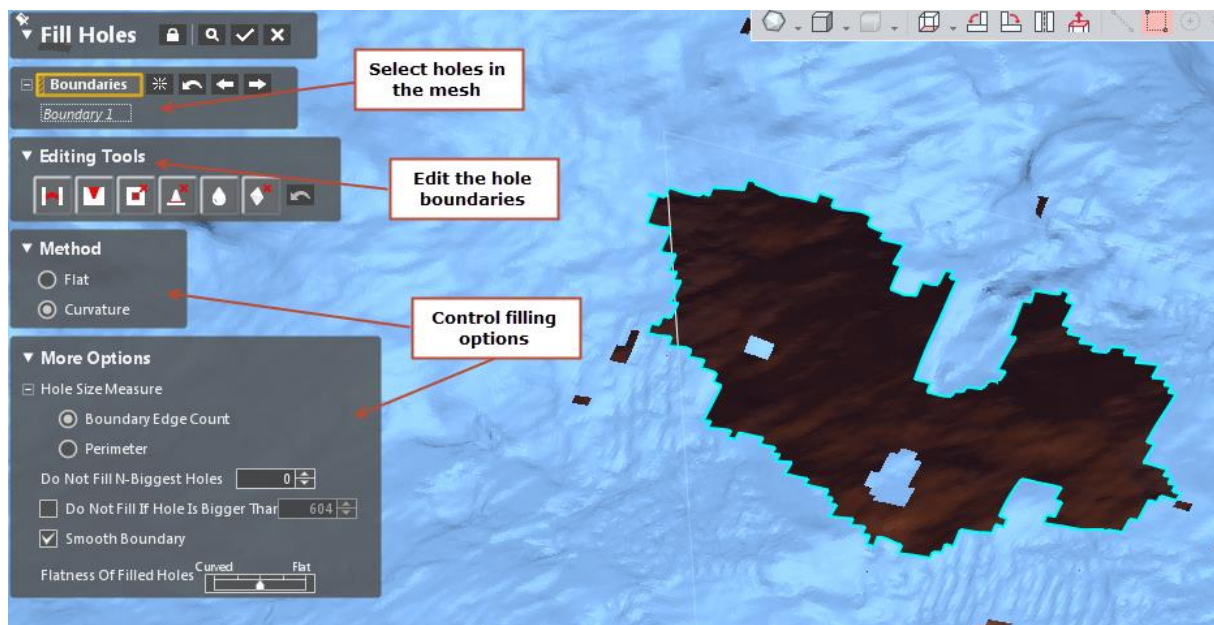

Figure 61 – Fill Holes Dialog Layout
2. Choose the large boundary shown above in **Figure 61**. Once the command is accepted, this hole will fill in.